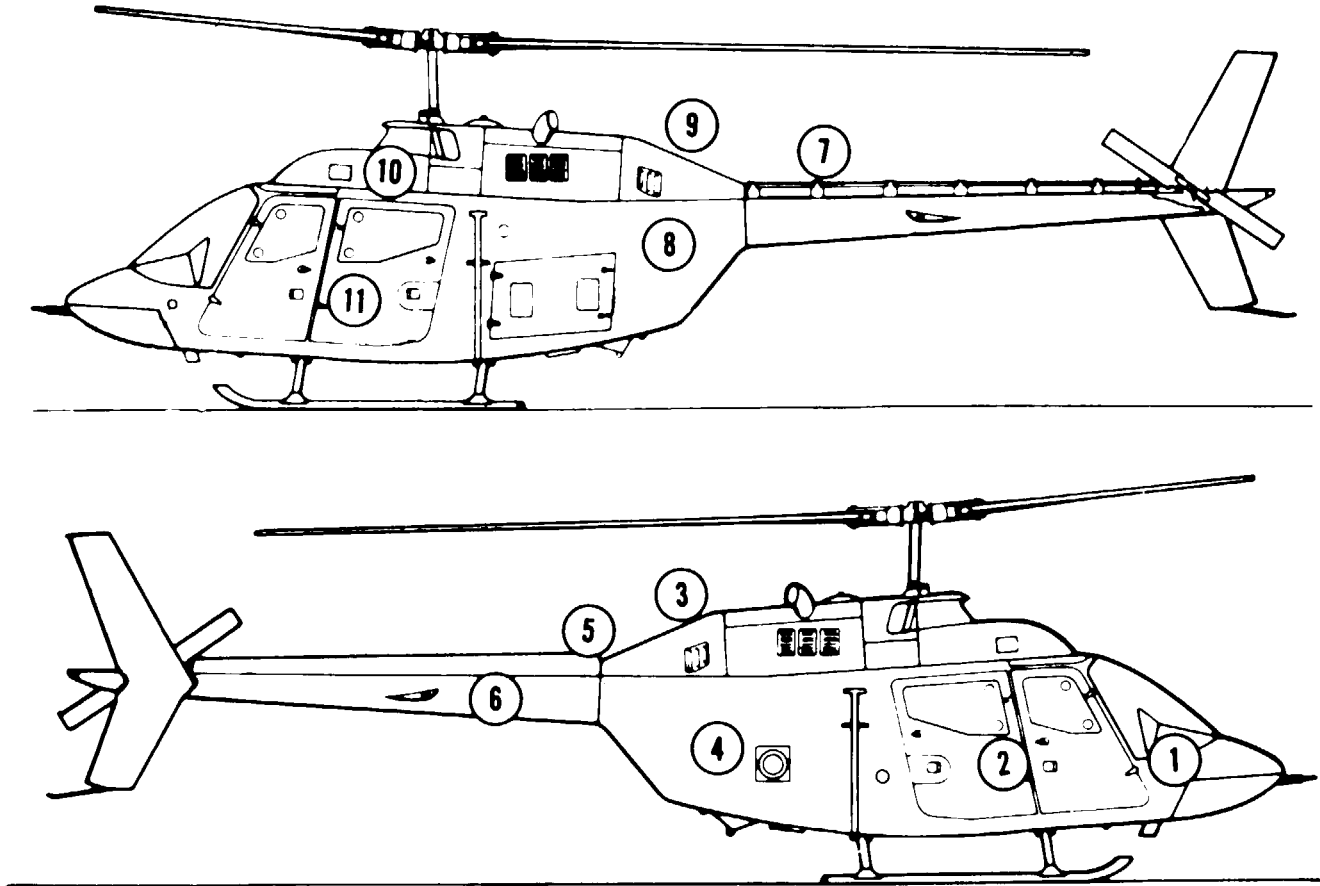

Figure 1. Inspection Areas.
*a.* The inspection requirements contained herein are stated in such a manner as to establish what and when certain equipment is to be inspected and what conditions are desired/undesired. Compliance with the provisions outlined herein is required in order to assure that proper servicing has been accomplished and latent defects are discovered and corrected before malfunctioning or serious trouble results. Inspection requirements are arranged, as nearly as possible, according to the manner in which they will be performed. The requirements are divided into groups under area headings (figure 1).
**6. Inspection Areas.** Inspection areas are shown in figure 1.